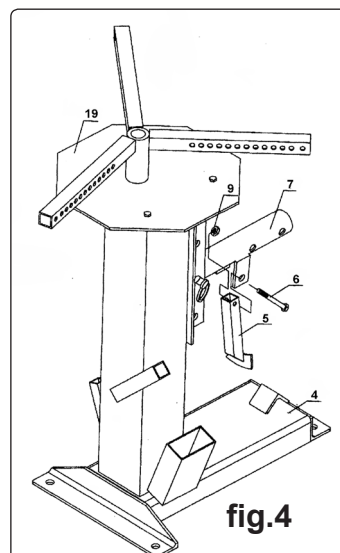

fig.4
- 3.3 Attach the Bead Breaker (5) to the bracket on the Pivot Arm (7) using bolt (6) and lock nut (9) (fig.4).